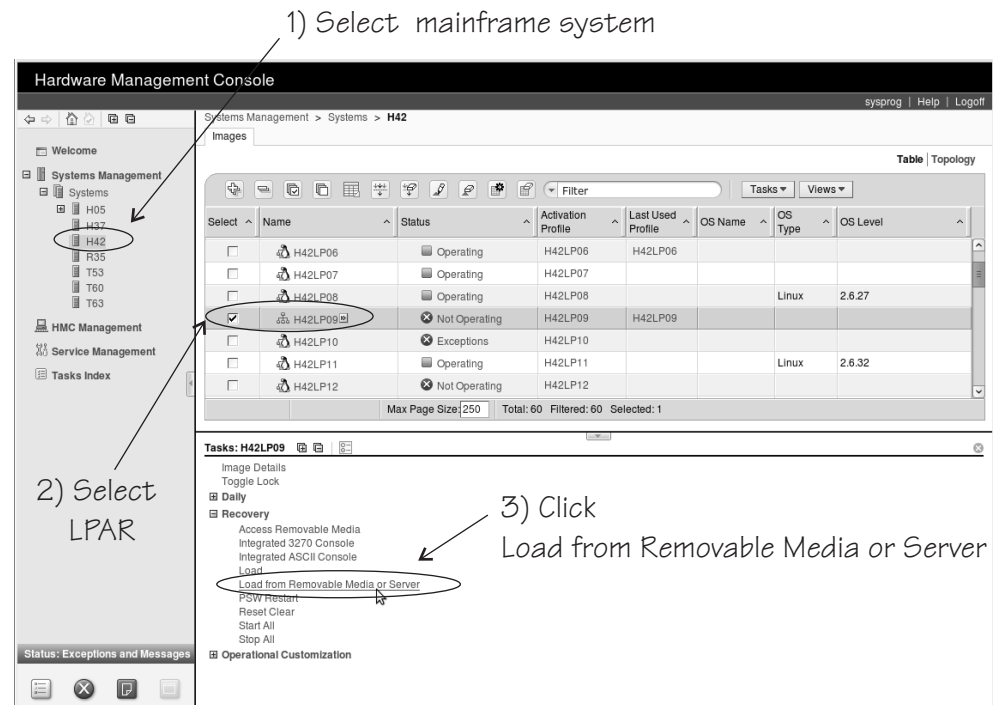

Figure 65. Load from Removable Media or Server task on the HMC
3. In the **Tasks** area, expand **Recovery** and click **Load from Removable Media or Server** (see Figure 65).